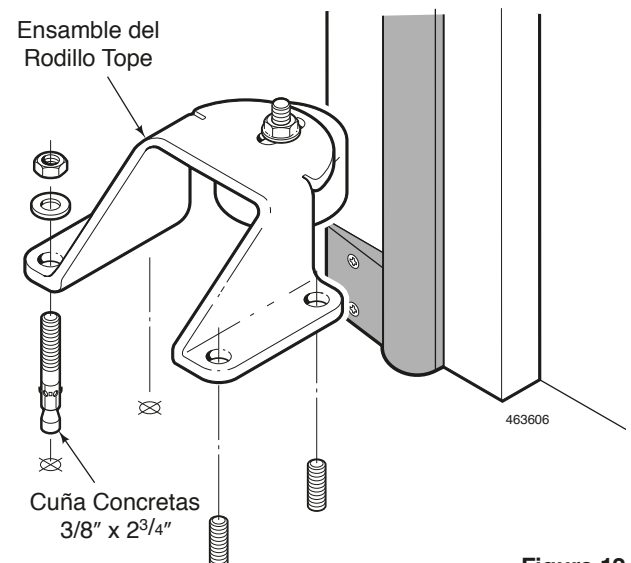

Figure 12
4. Use four 3/8" x 2-3/4" concrete wedge anchors to fasten each Stay Roller to the floor. See Figure 12.